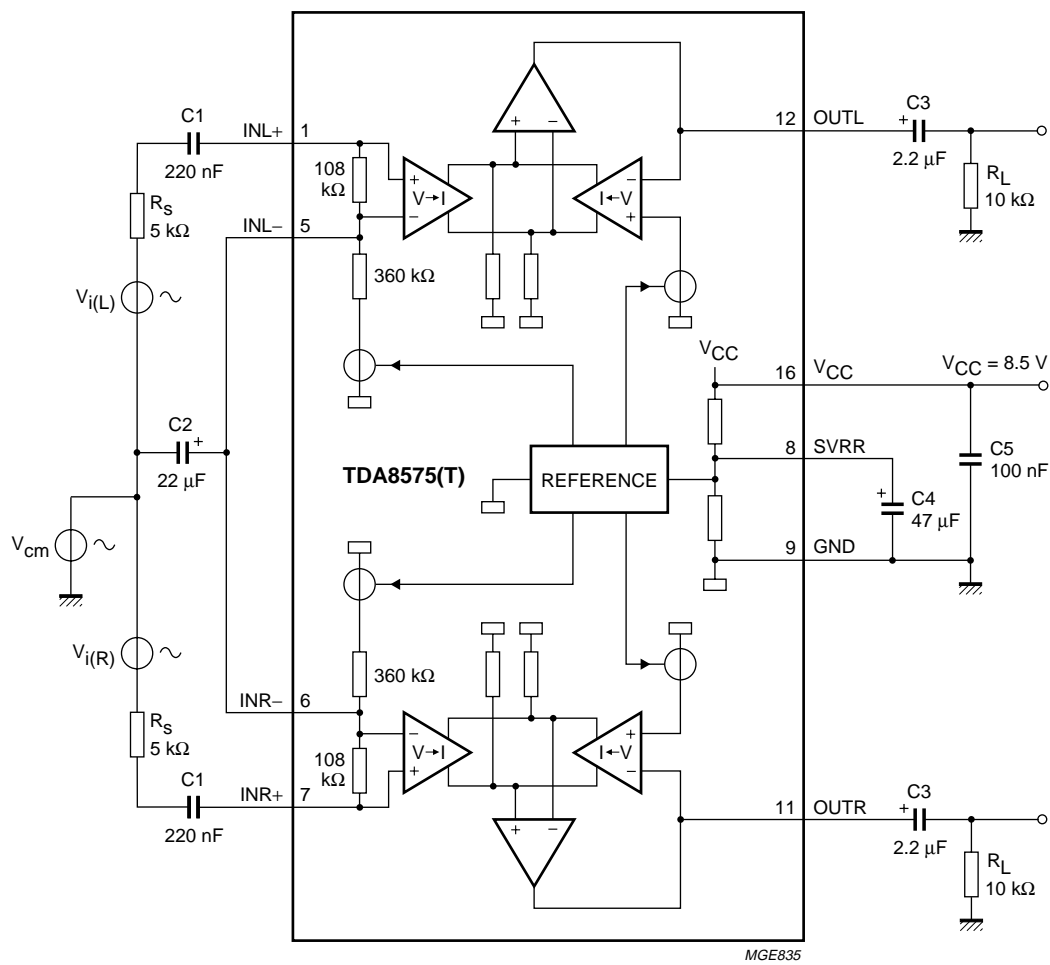

Fig.9 Application circuit TDA8575(T).
$V_{CC} = 8.5\text{ V}$ ;  $T_{amb} = 25\text{ °C}$ ;  $R_L = 10\text{ k}\Omega$ ; in accordance with application circuit (see Fig.9).
**AC CHARACTERISTICS** $V_{CC} = 8.5 \text{ V}$ ;  $f = 1 \text{ kHz}$ ;  $R_S = 0 \text{ k}\Omega$ ;  $R_L = 10 \text{ k}\Omega$ ;  $T_{amb} = 25 \text{ }^\circ\text{C}$ ; in accordance with application circuit (see Fig.9).
4. The common mode rejection ratio is measured at the output with a voltage source  $V_{cm(rms)} = 1 \text{ V}$  and both  $V_{i(L)}$  and  $V_{i(R)}$  short-circuited according to Fig.9. The common mode rejection is dependent on the capacitor C2 connected to the IN- input. The common mode rejection for low frequencies (<1 kHz) can be increased by using a larger capacitance for C2.